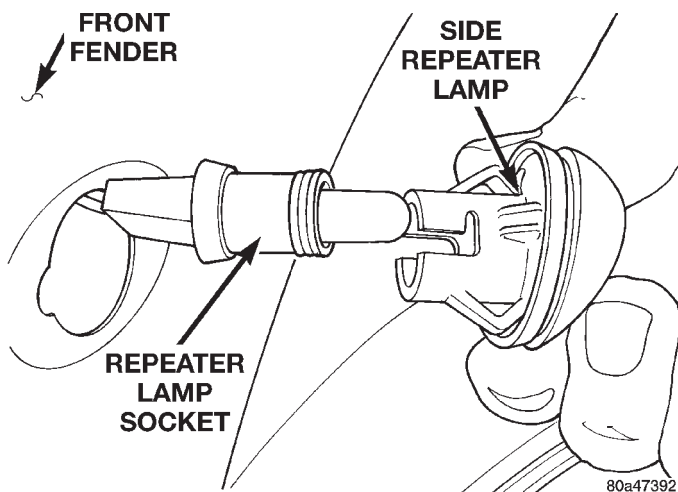

Fig. 5 Side Repeater Lamp Socket
- (1) Open door to gain access to side repeater lamp
- (2) Disengage side repeater lamp socket from side repeater lamp (Fig. 5).